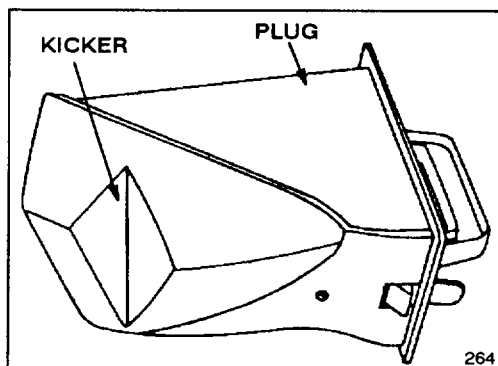

Figure 9
C. A special plug which locks into the mower's discharge tunnel (a fifth kicker is on the plug) (Fig. 9)
It is possible to mow without using the plug by closing the discharge tunnel door. However, your lawn appearance will be much more satisfactory if you use the plug as it has an additional kicker (Fig. 9) that helps drive the clippings down into the grass.